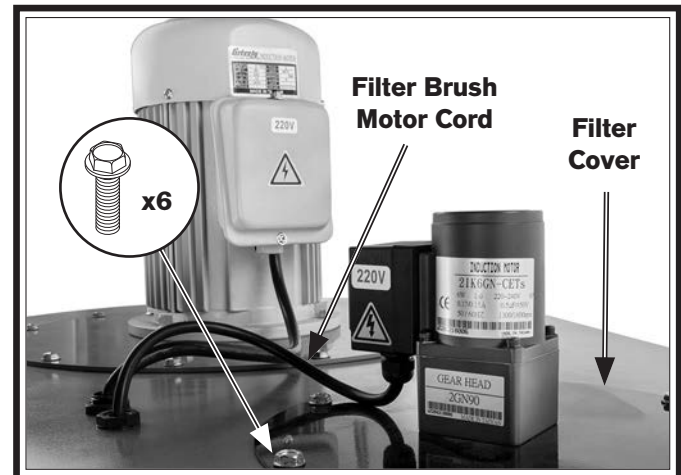

Figure 26. Filter cover attached to housing assembly.
31. Attach filter cover assembly to housing assembly with (6) $\frac{5}{16}$ "-18 x $\frac{3}{4}$ " flange bolts (see **Figure 26**).
32. Route filter brush motor cord into housing through strain relief (see **Figure 26**), then tighten strain reliefs on top and bottom of housing.